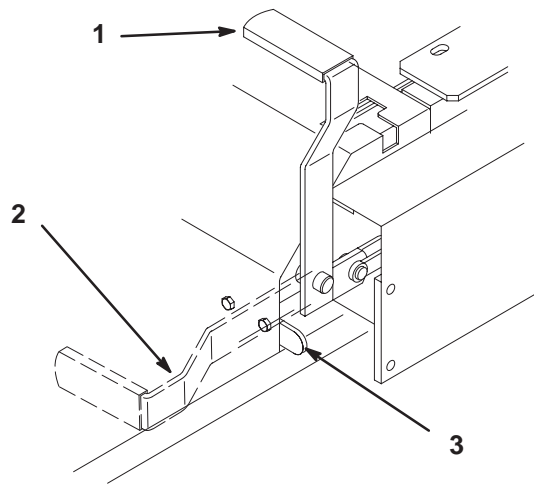

Figure 13
2. Pull back and up on the parking brake lever to set the parking brake (Fig. 13). The parking brake lever should stay firmly in the Engaged position.
Push forward and down on the parking brake lever to release the parking brake (Fig. 13). The parking brake is disengaged and the lever rests against the brake stop.